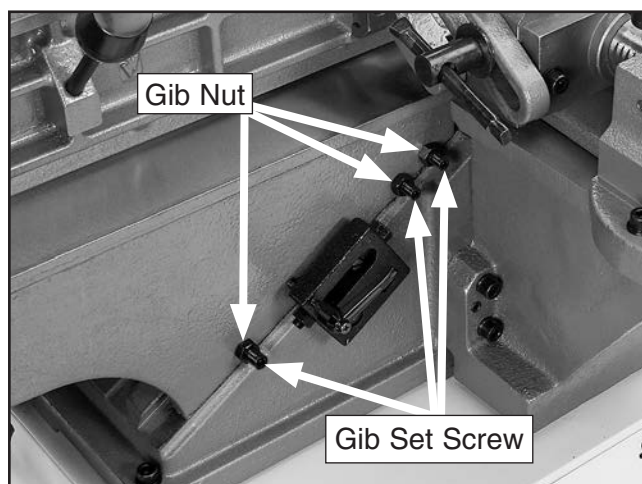

Figure 74. Infeed table gib controls.
1. Loosen three infeed table gib nuts on back of jointer base (see **Figure 74**).